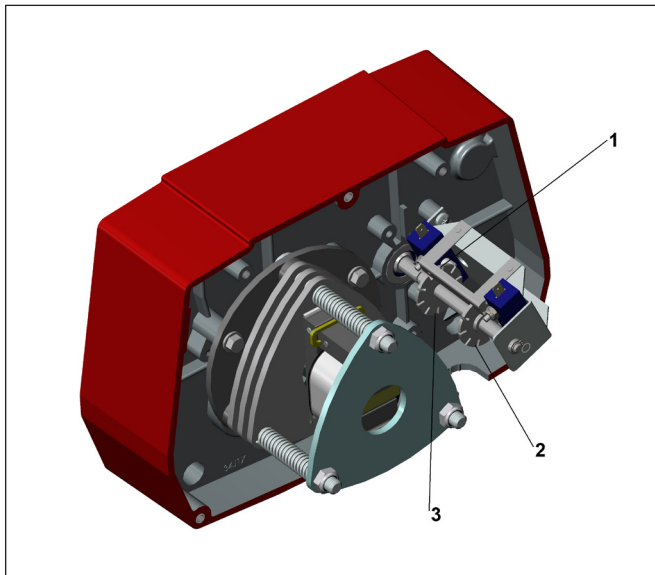

FIGURE 5-1. LIMIT SWITCH ADJUSTMENT
Limit switches are provided to protect the hoist against damage resulting from overtravel. For easy identification the upper (No. 2, Figure 5-1) and lower (No. 3, Figure 5-1) limit switch adjusting nuts are colored brass and zinc respectively. Each limit switch nut has ten slots for adjustment, and the increment of adjustment is such that one slot is equivalent to one link of chain travel. Care should be exercised when adjusting either limit of travel. When a geared type limit switch is furnished (long lift hoists) each adjustment is equal to 3 links of chain, or 30 links per revolution.
- With a screwdriver, pry the spring guide plate (No. 1, Figure 5-1) out of the slots in the colored limit switch nut (Nos. 2 and 3).
- c. With a screwdriver, push the spring guide plate (No. 1 Figure 5-1) out of the slots in the limit switch nuts. Turn the brass slotted nut (No. 2) back to about the center of the threaded screw. **DO NOT DISCONNECT THE WIRES FROM THE LIMIT SWITCHES.**